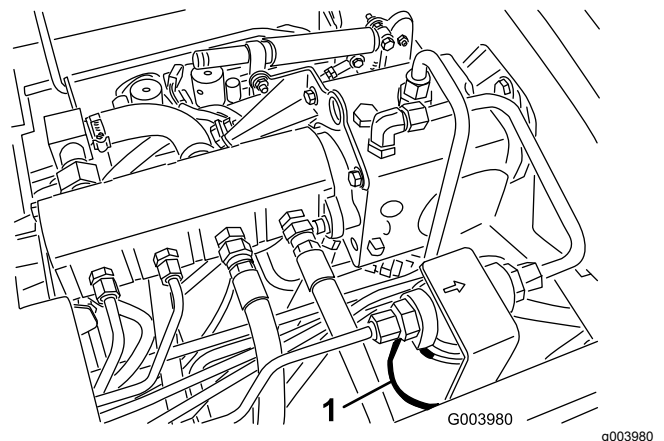
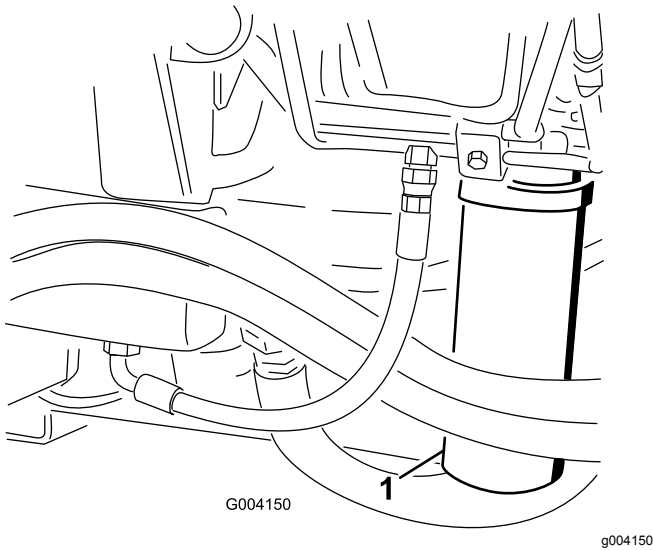

Figure 67
Figure 68
- Clean the area around the filter mounting area and place a drain pan under filter (Figure 67 and Figure 68).